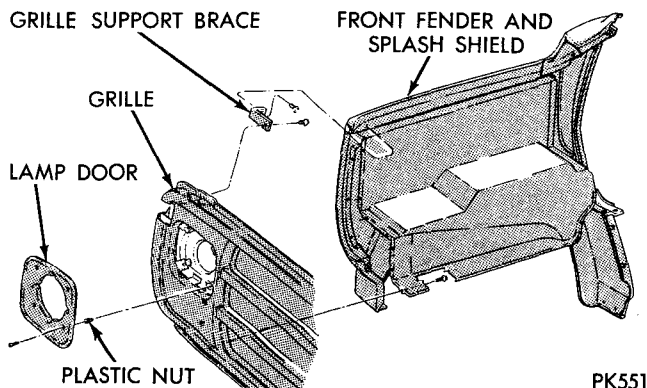
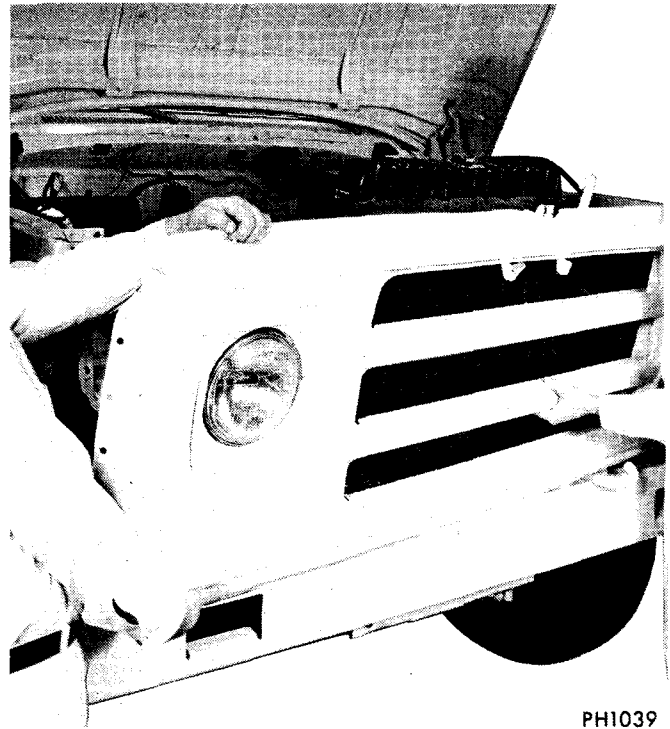

Fig. 11—Grille and Support to Fender
Fig. 12—Removing Grille Support and Radiator From Vehicle
- (1) Disconnect battery cable.
- (2) Drain coolant.
(3) Remove top radiator hose and disconnect the lower hoses.
(4) Remove front splash shields from inner fenders.
(5) Disconnect wiring harness at bulkhead, starter relay, windshield washer pump, horn and both fender and headlight circuits.
(6) Remove screws mounting fender to grille and support assembly, (Fig. 11).
(7) Remove nuts from front end hold down mountings and radiator assembly, (Fig. 11) view 'A'.
(8) Raise assembly and use caution when removing, so as not to hit the lower front end mounting studs.
(9) Remove grille and support assembly (with an assistant) from the vehicle as shown in (Fig. 12), using caution not to damage the radiator during removal.